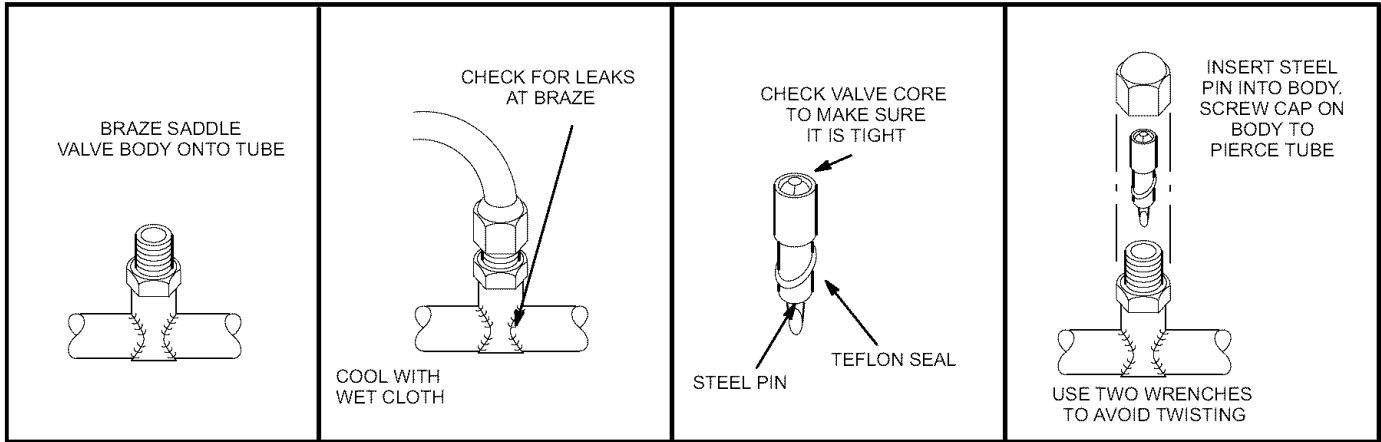

FIGURE 3
- 1 - Braze saddle valve (provided) onto 3/8" O.D. process tube between unit distributor and drier for leakproof joint. Cool with wet rag and clean joint. Apply process hose to pressurize and check for leaks as shown in figure 3.